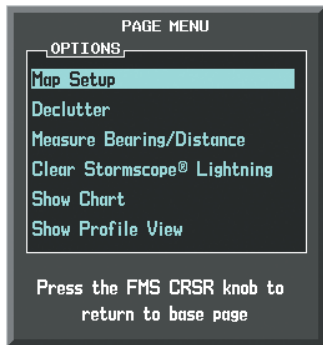

Figure 6-179 Navigation Map Page Menu
- 3) With Map Setup highlighted, press the **ENT** Key (Figure 6-179).